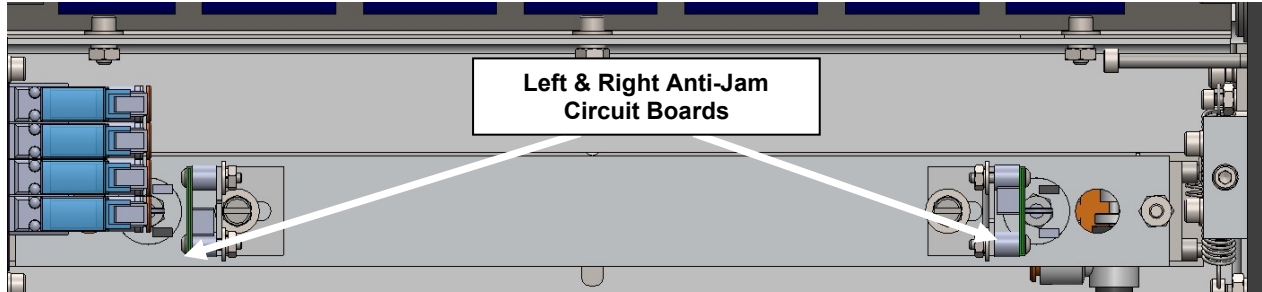

Figure 4-13
12. While one person continues to hold the Pressure Bar all the way in, the other person will move the Anti-Jam Circuit Board back and forth (Figure 4-13) until X6 or X7 turns on. Tighten the two Lock Nuts holding Circuit Board to the Bracket. If X6 or X7 did not turn on while doing this procedure, go to the next step.